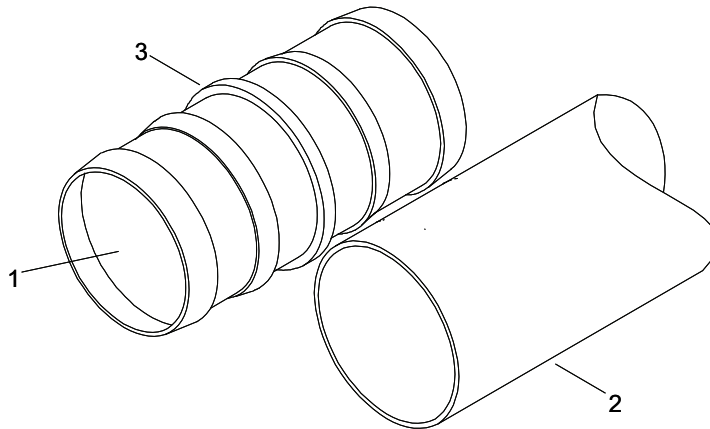

Figure 30. Hose Assembly Repair.
11. Using the hose splice (Figure 30, Item 1) as a guide, align the cut end of one section of the hose assembly (Figure 30, Item 2) with the machined stop (Figure 30, Item 3) in the center of the hose splice (Figure 30, Item 1).